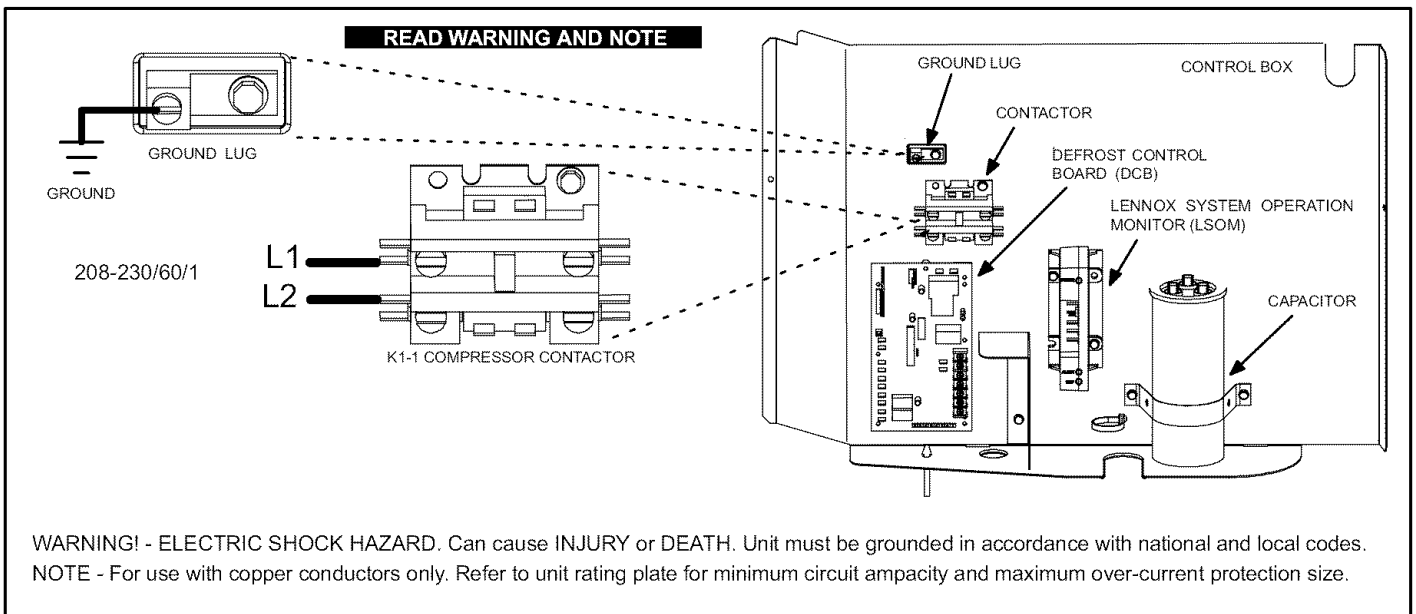

Figure 15. Typical High-Voltage Field Wiring (Unit Panel)
3. Install line voltage power supply to unit from a properly sized disconnect switch as illustrated in figure 15.
4. Ground unit from ground lug as illustrated in figure 15 to unit disconnect switch, or to an earth ground.